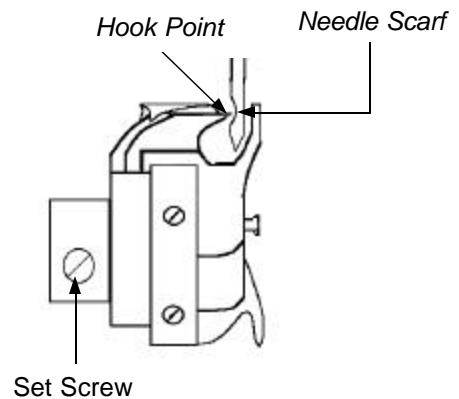

Figure 4
17. Continue to rotating handwheel until needle rises 2-3mm (24° on degree wheel). Middle of needle scarf will be even with outer edge of Hook Assembly. See Figure 4